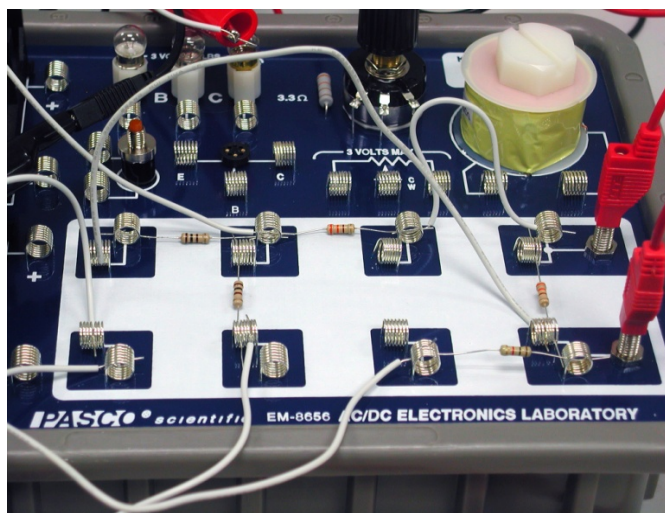

Figure 7: Resistor Setup
- First attach the resistors as shown in Figure 7. Note that the "Y" is on the left and the voltage divider (see Figure 2 on the Theory page) is the two resistors on the right. R_1 is the 100 Ω resistor on the upper left.